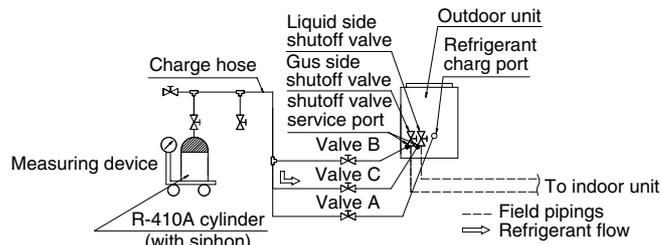

fig 31
- 3 Open the valve C (See the figure 31. The valve A, B and the liquid and gas side shutout valve must be left closed), and charge the refrigerant of the “additional charging amount” from the liquid side shutout valve service port.